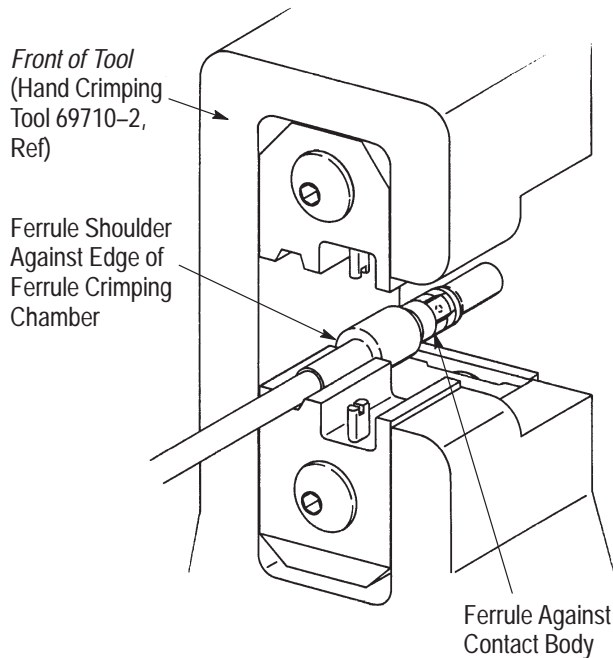

Figure 3
2. Insert contact body through the ferrule crimping chamber from the FRONT of the tool. Make sure that the shoulder on the ferrule is against the edge of the ferrule crimping chamber. See Figure 3.